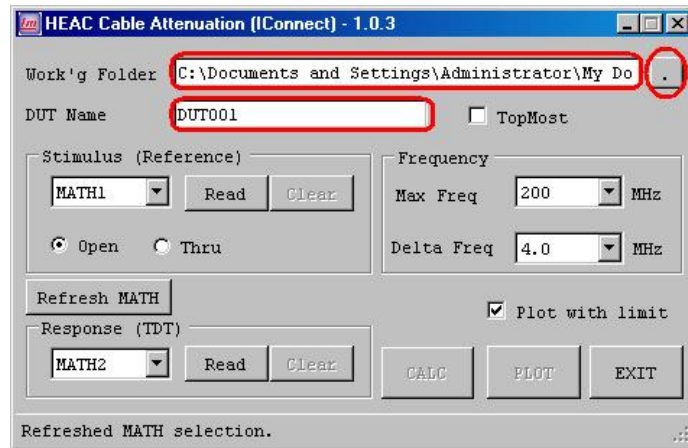

**Figure 26: Setting Horizontal Scale**
- (23) Adjust the **HORIZONTAL SCALE** knob so that the **M2** edge is displayed in the right half side of screen (see Figure 26). (Do not change **HORIZONTAL POSITION**).